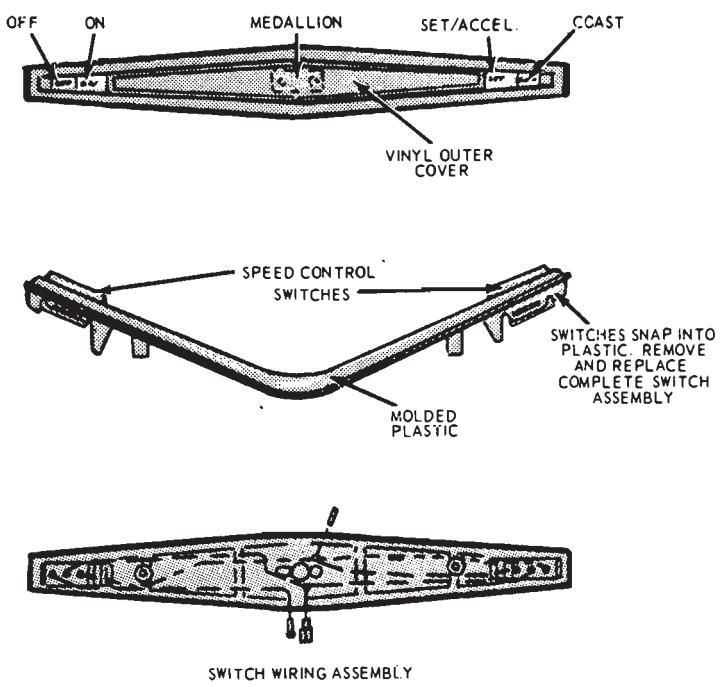

FIG. 3—Control Switch Removal—Thunderbird
4. The speed control switches may now be removed by snapping the switches out of the plastic retainer (Fig. 3).